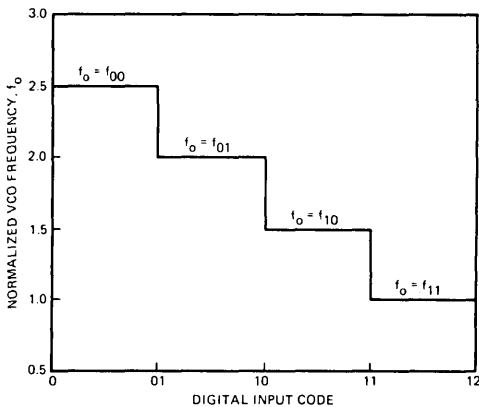
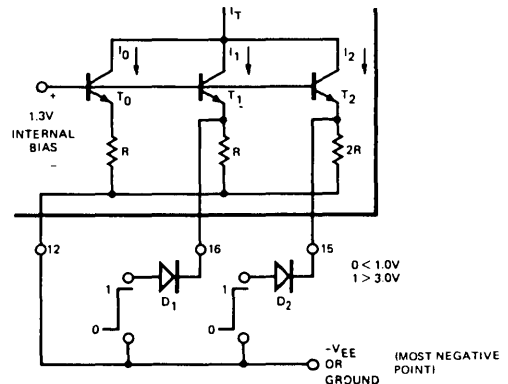

Figure 13. VCO Digital Tuning Characteristics
Figure 15. Explanation of VCO Digital Controls
2. Two digital control inputs allow four discrete frequencies to be selected at any center frequency. The digital inputs convert the logic signal voltages to internal control currents. (see Figure 13)
The VCO frequency is proportional to the total charging current, I_T , applied to the timing capacitor. As shown in Figure 15, I_T is comprised of three separate components: I_0 , I_1 , and I_2 , which are contributed by transistors T_0 , T_1 , and T_2 , respectively. With pins 15 and 16 open circuited, these currents are interrelated as
Currents I_1 and I_2 can be externally controlled through pins 16 and 15 respectively. By increasing the dc level at either of these pins, T_1 or T_2 can be turned "off" and I_1 or I_2 can be reduced to zero. With reference to Figure 15, this can be done by applying a 3 volt logic pulse to these pins, through disconnect diodes D_1 and D_2 . In this manner, the VCO frequency can be stepped in four discrete intervals, over a frequency range of 2.5:1, as shown in Figure 13.